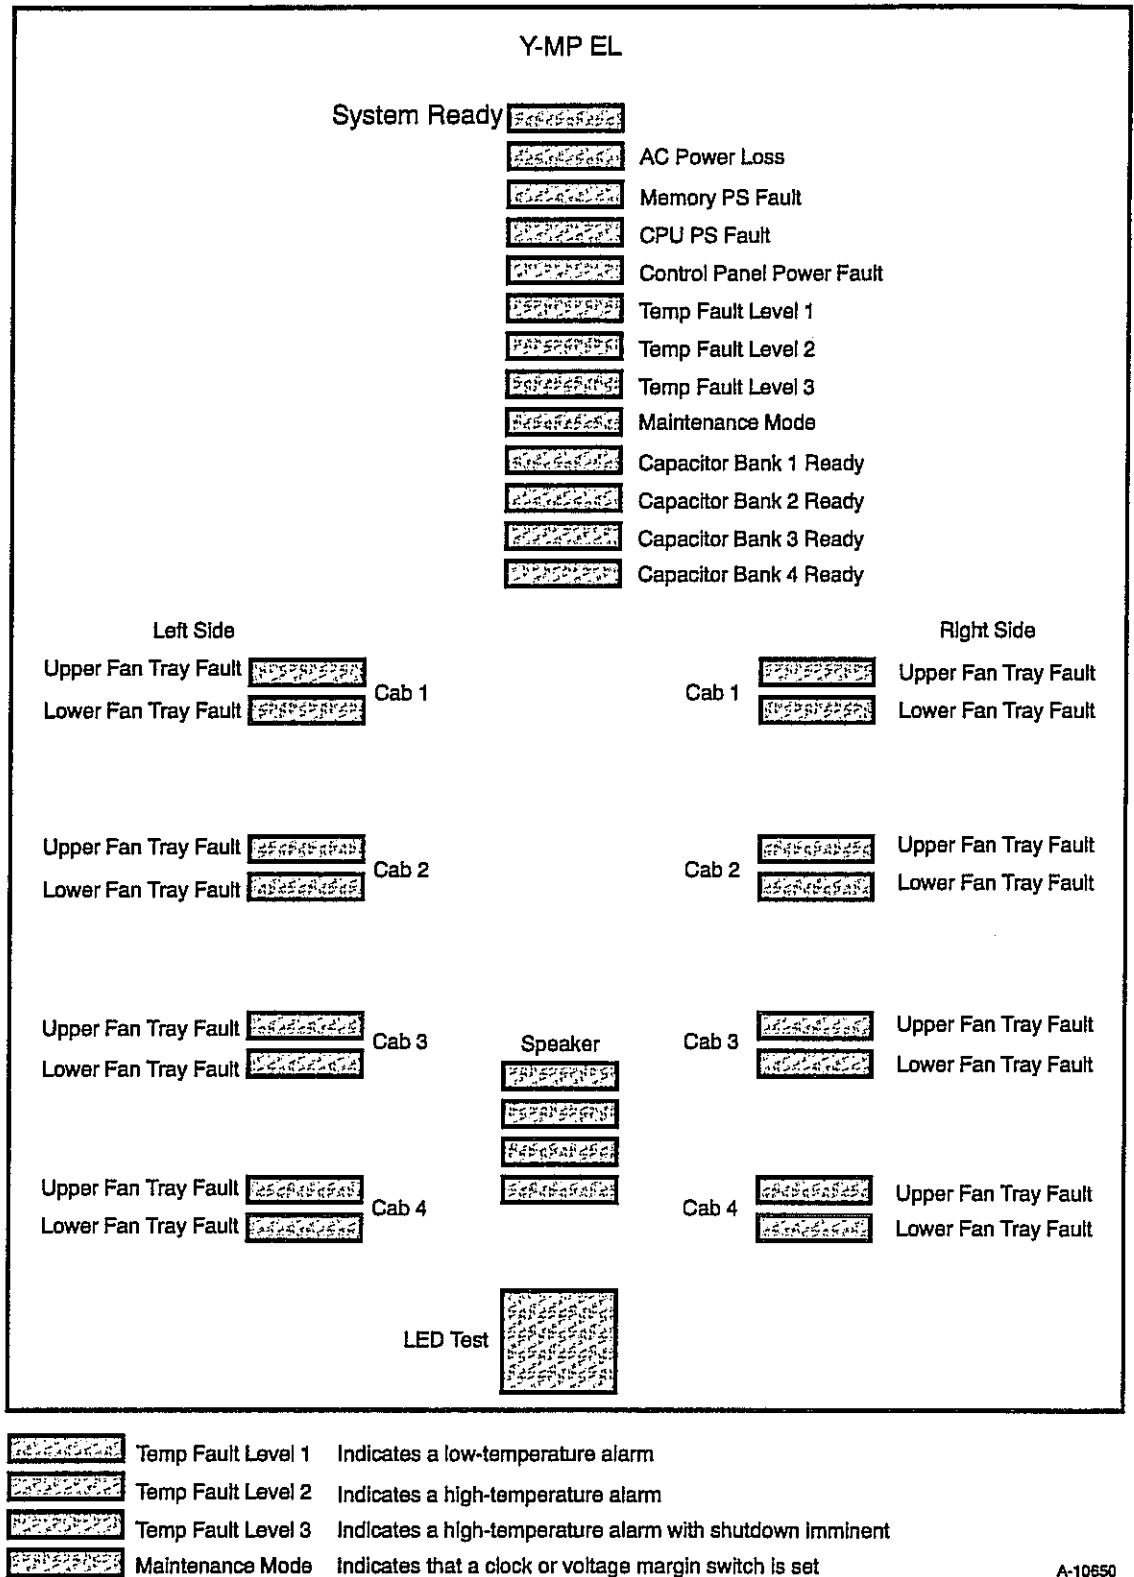

Figure 7-1. CRAY EL Series Control Panel LEDs
2. Ensure that the AC POWER LOSS LED is illuminated on the control panel. Refer to Figure 7-1.
8. Ensure that the Capacitor Bank Ready LED for each cabinet is illuminated on the control panel. Refer again to Figure 7-1. The Capacitor Bank Ready LED for each cabinet takes approximately 1 minute to illuminate.